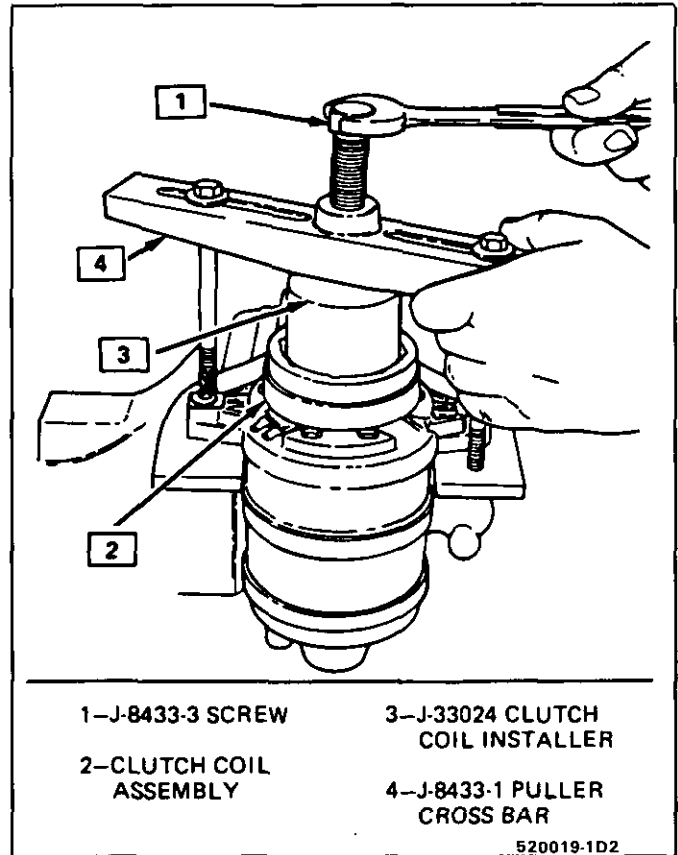

Fig. 19 Installing Clutch Coil Assembly
3. Center the J-8433-1 puller crossbar in the countersunk center hole of the J-33024 clutch coil installer. Install the J-33026-2 through bolts and washers through the crossbar slots and thread them into the holding fixture J-33026 to full fixture thickness (Fig. 19).